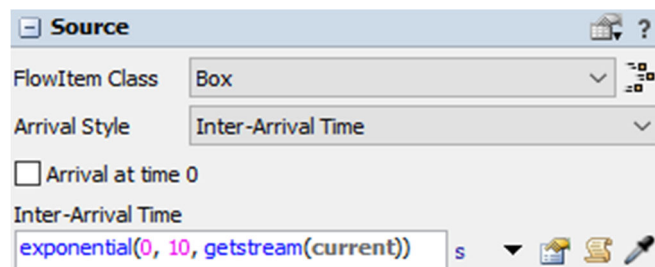

Fig. 5 *Source* – generating flow elements
2. **Arrival Style** – defining the method of generating flow elements. The default is *Inter-Arrival Style*, i.e., specifying the time interval between successive elements. This option will be used in the model (Fig. 5). It is also possible to generate elements according to the adopted schedule (*Arrival Schedule*) or in sequence (*Arrival Sequence*).